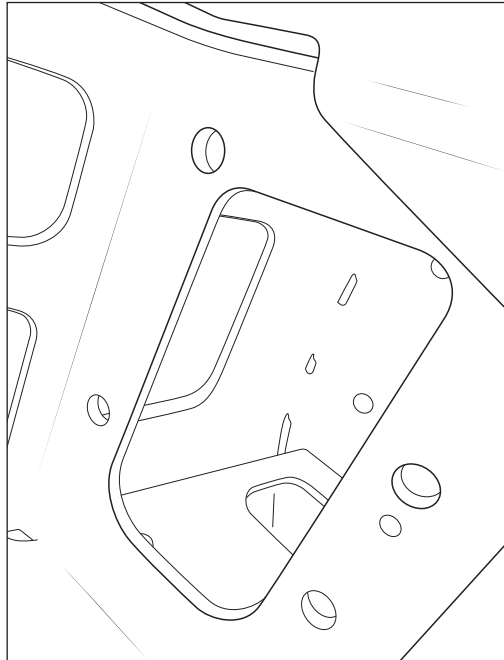

Figure 1
- A. Drill one hole 1 1/2" down from the second hole shown. (fig. 1).
- B. Drill a second hole 1" down from the ridge/lip of the part (fig. 1).